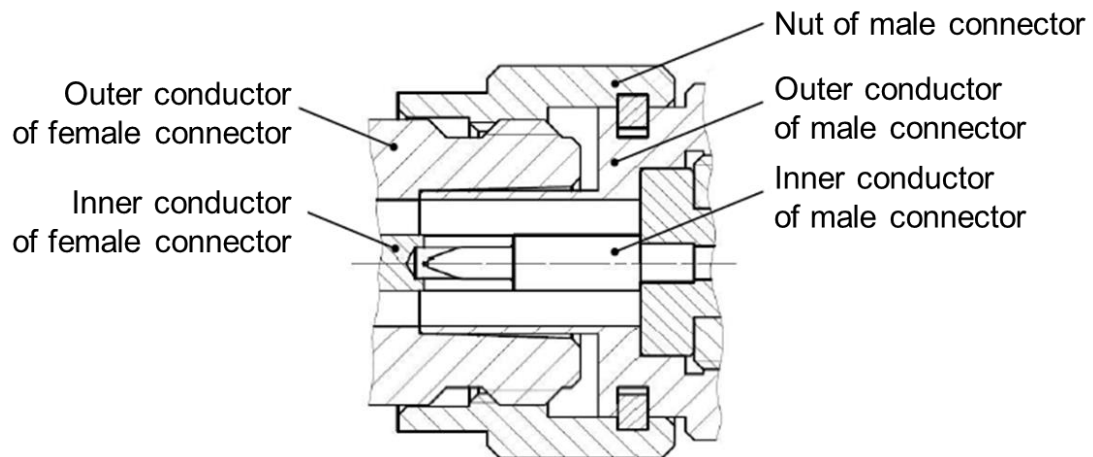

Figure 5. Connection example
- While holding the standard being connected, rotate the nut of the male connector allowing the threads to engage so that the inner conductor of the male connector was inside the inner conductor of the female connector (see figure 5).